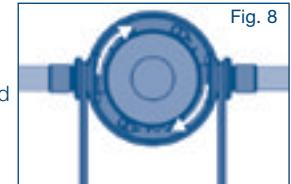

Fig. 8
- The bypass can be set by turning the cap on the filter head (see Fig. 8). Turn the cap left or right until the mark displays the required value and the cap snaps into place.